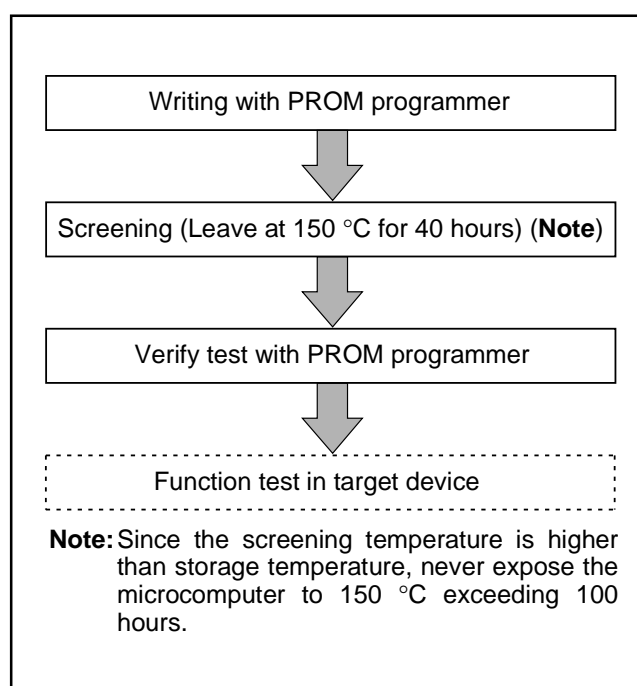

Fig. 53 Flow of writing and test of the product shipped in blank
(2) Notes on handling
① A high-voltage is used for writing. Take care that overvoltage is not applied. Take care especially at turning on the power.
② For the One Time PROM version shipped in blank, Renesas corp. does not perform PROM writing test and screening in the assembly process and following processes. In order to improve reliability after writing, performing writing and test according to the flow shown in Figure 53 before using is recommended (Products shipped in blank: PROM contents is not written in factory when shipped).